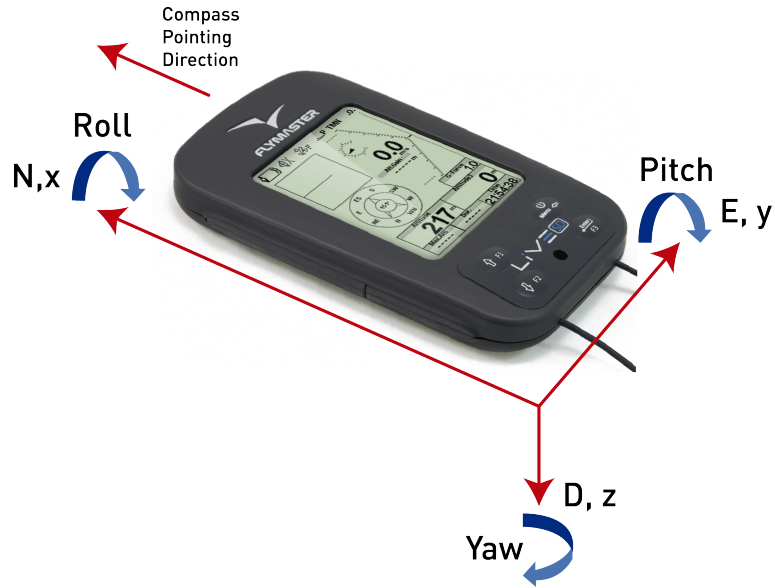
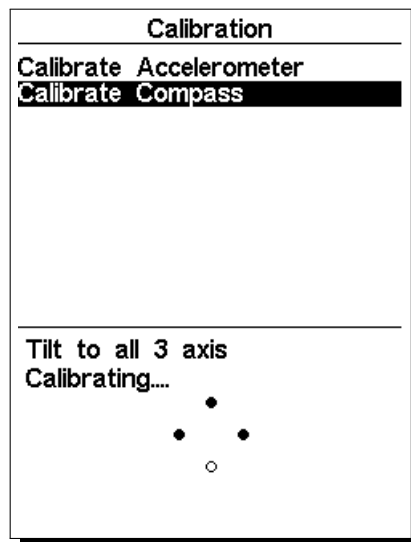

Figure 8.2: Compass Calibration Reference Frame
Figure 8.3: Compass Calibration Indication Points
The magnetometer has 3 axes (Figure 8.2 ) which are associated with the instrument reference frame. Turning the instrument around each of the 3 axes will change the Yaw, Pitch and Roll angles. In order to make a proper calibration the instrument should be turned/rotated slowly in each of the 3 axis. It is not important to make a complete rotation, or the order in which the turns are made. What is important is that instrument is rotated to vary the Yaw, Pitch and Roll from an angle near  $-90^\circ$  to  $+90^\circ$ . An indication of the calibration procedure state is given using 4 circles that are shown at the bottom of the calibration page (see Figure 8.3). The top and bottom circles are associated with the Pitch angle, while the left and right circles are associated with the Roll angle. When the calibration is initiated all the circles are empty (no color). If the instrument is rotated so that the pitch angle gets close to  $-90^\circ$  then the top circle is filled black. Similarly, if the pitch angle gets close to  $+90^\circ$  then the bottom circle is filled black. The same thing happens with the left and right circles when the instrument is rotated for the Roll angle. No indication is given for the Yaw angle. The calibration procedure is automatically terminated when all the circles become black. In the figure Figure 8.3 all the circles are black except the bottom one. The complete calibration procedure can be summarized in the following points:
1. Go to Menu->Settings->Calibration and choose the "Calibrate Compass" option (see Figure 8.3);